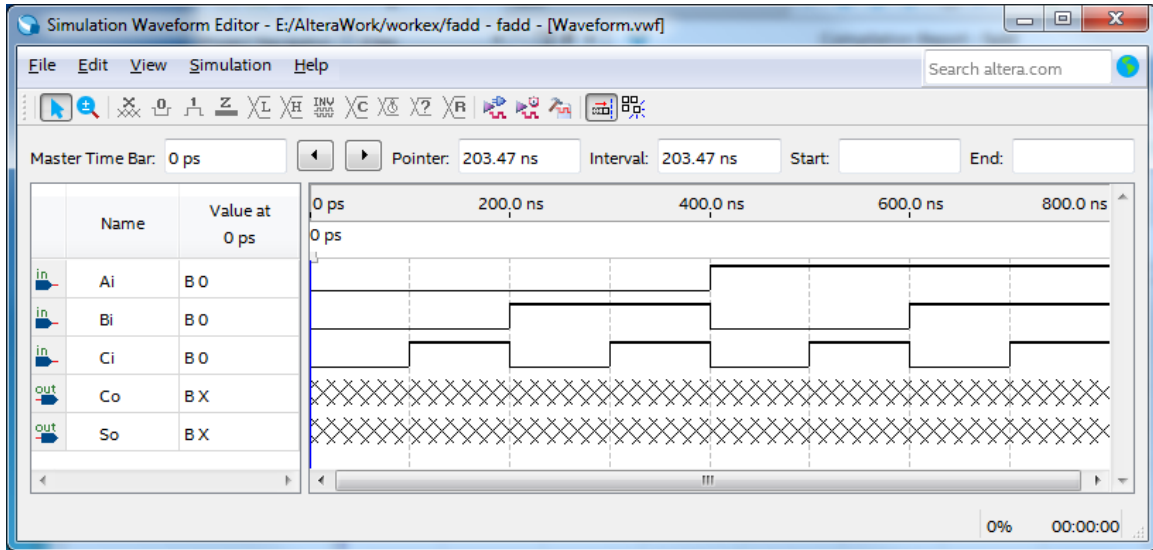

Figure 9: Simulation test vector waveforms
To simulate a logic circuit it's necessary to create a list of input values, called test vectors, that will be displayed in a waveform. To assign the input values we will use the waveform editor. You will be assigning eight different sets of input values (test vectors) and hold each set for 100ns, as shown in Figure 9
- At this point the Simulation Waveform Editor should appear similar to that in Figure 9. Save your work with File => Save